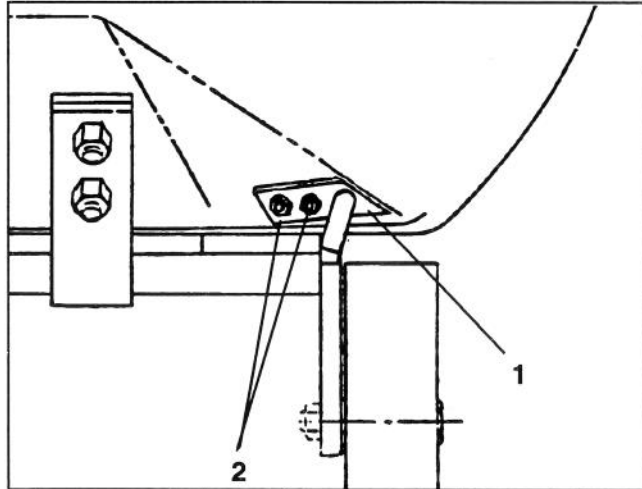

Figure 8
16. Install both the grass plate (if previously removed) and new grass baffle to inside of mower deck and latch pin adapter to outside of mower housing with (2) 5/16 – 18 x 1" lg. carriage bolts and 5/16 – 18 nylon lock nuts, supplied with Easy Twin Bagger (Fig. 8).